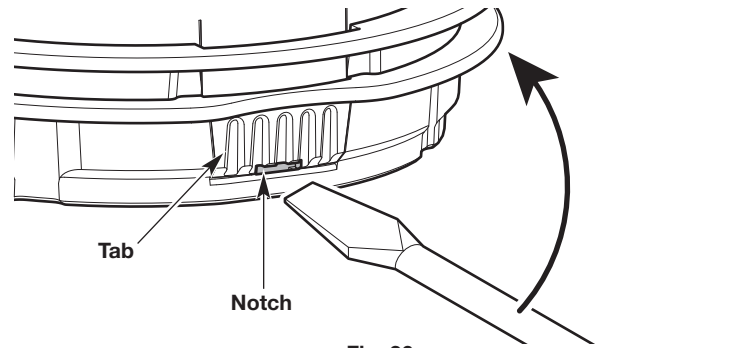

Fig. 26
- a. Insert a flat-head screwdriver into the notch on the tab (Fig. 26).
- b. Gently tilt the screwdriver up and hold it in place (Fig. 26).